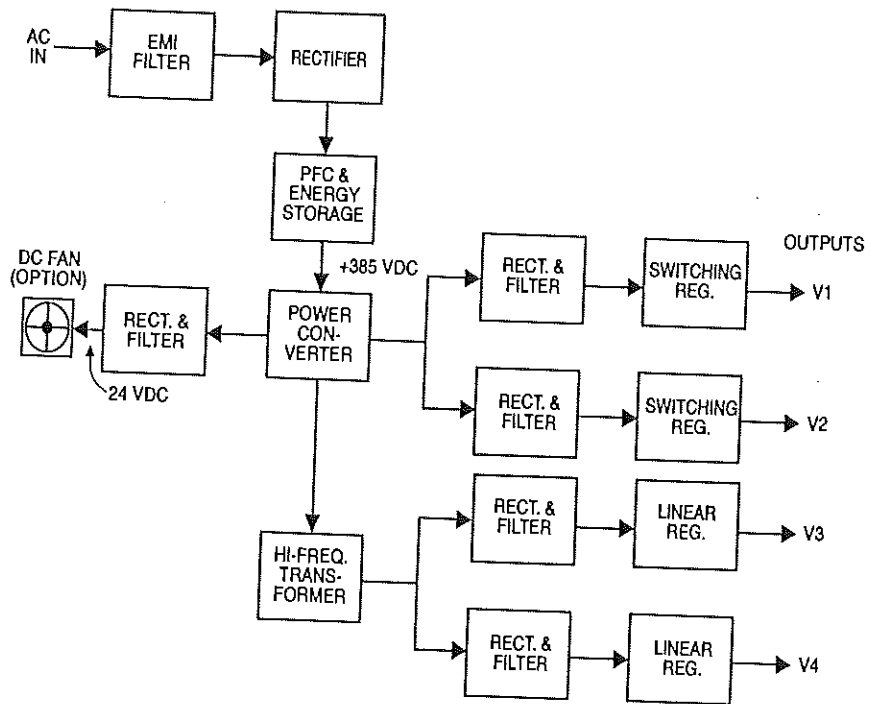

Figure 3. L Series Block Diagram.
- 5.1 **General.** The L Series employs a non-modular design on a single circuit board with two small, vertical control cards. See Fig. 3. The design incorporates an EMI input filter (Level A or B) and a high-frequency power factor correction (PFC) circuit operating at 100 kHz. The EMI input filter suppresses line noise and high frequency transients both from the AC power line and from the power supply to the line. The universal input voltage range is 90 to 264VAC continuous for worldwide operation.